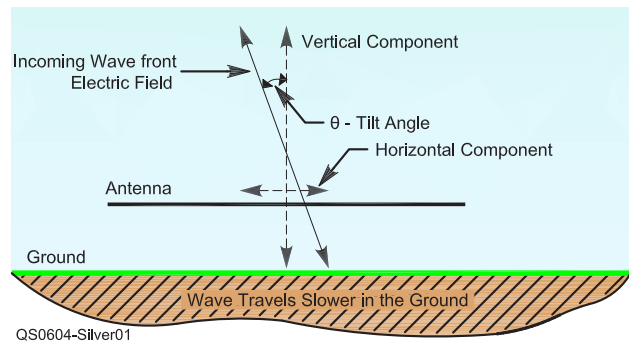

Figure 2 — Incoming signal wave fronts tilt at ground level, due to reflection in the ionosphere and the effects of ground.
A radio wave is an electromagnetic field (EMF) with an electric (E) and magnetic field strength (H) component at right angles. An EMF induces voltage and current in every conductor it encounters. How much voltage and current depends on the orientation of the EMF, with respect to the antenna. As a radio wave arrives from the ionosphere, its vertically polarized electric field component (E field) is tilted forward, as shown in Figure 2. Wave front tilt results from being reflected by the ionosphere. Higher arrival angles increase the tilt.
Figure 2 shows why tilt is important. For the wave to induce a voltage in the antenna, the E field must at least partially align with the antenna. There won't be any voltage if the wave front arrives with a perfectly vertical E field. When the E field is tilted, however slightly, it becomes partially parallel to the antenna. The vertical portion of the tilted E field doesn't create voltage in the antenna, but the horizontal portion does. The result is induced voltage along the entire length of the antenna.
Figure 2 shows a vertically polarized E field. A horizontally polarized E field that's parallel and close to Earth is severely attenuated by ground losses. Furthermore, if arriving along the antenna, the E field is at a right angle to the antenna and can't induce voltage in it. That means the Beverage antenna is most sensitive to vertically polarized signals arriving in line with the antenna. (Regardless of a signal's